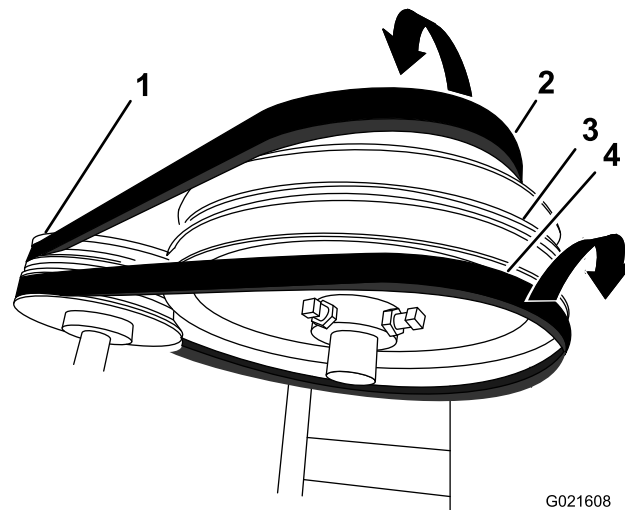

Figure 39
4. Slip the forward belt forward and off the idler pulley (Figure 39).
5. Slip the rear belt rearward and off the idler pulley (Figure 39).